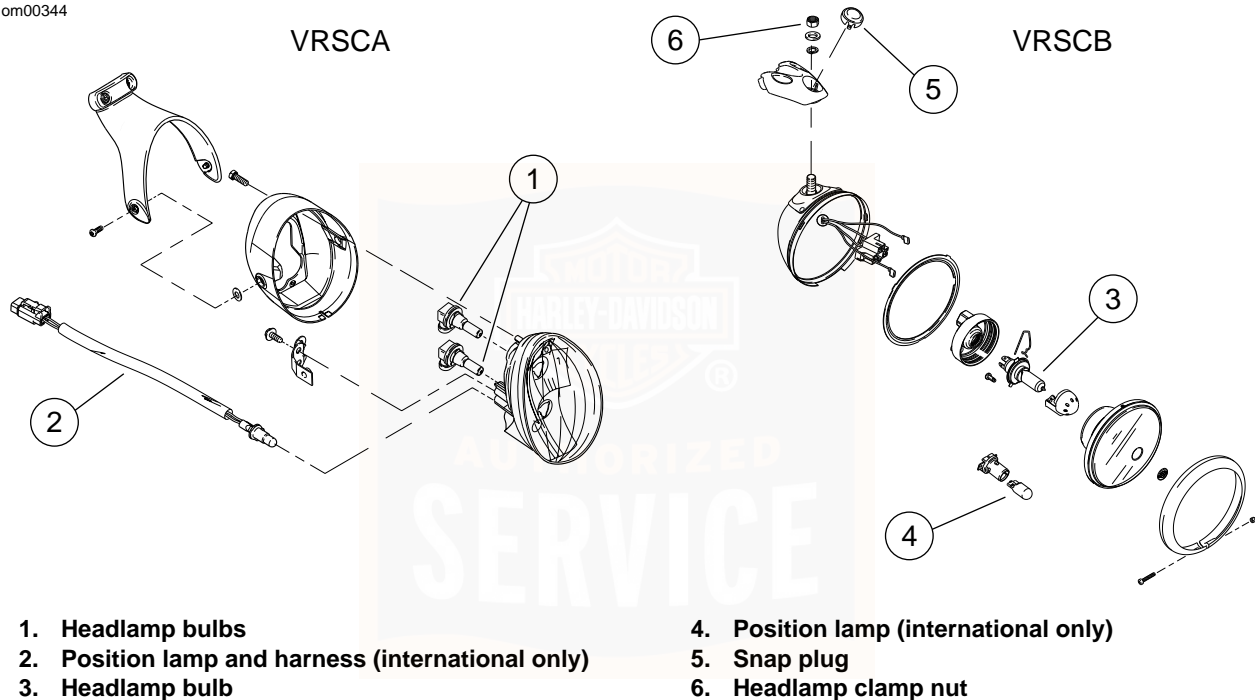

Figure 47. Headlamp: VRSC Models
See Figure 47. The headlamp assembly uses a replaceable quartz halogen bulb.
8. For VRSCB models, see Figure 47. If adjustment is required:
- a. Remove snap plug (5) on top of headlamp bracket.
- b. Loosen headlamp clamp nut (6).